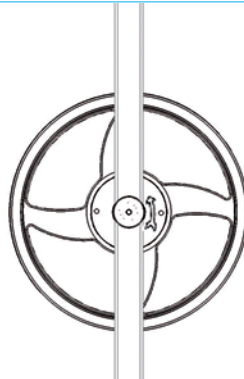

fig. 19
- check that the protection devices (fuses, magnetothermic switches) are correctly sized, and that the phases are connected in the correct order: check that the fan rotates in the direction of the arrow shown on the driven pulley (see fig. 19).